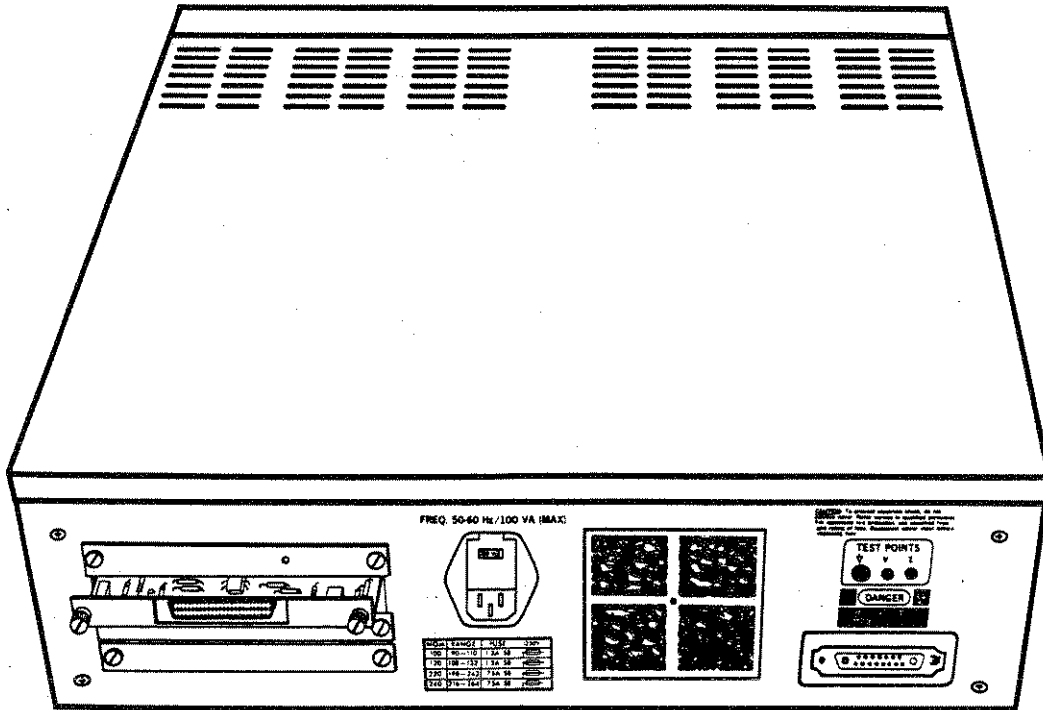

Figure 7-36. Installing an Interface
- STEP 4. Insert the interface in the circuit assembly slot, component side up, as shown in Figure 7-36.